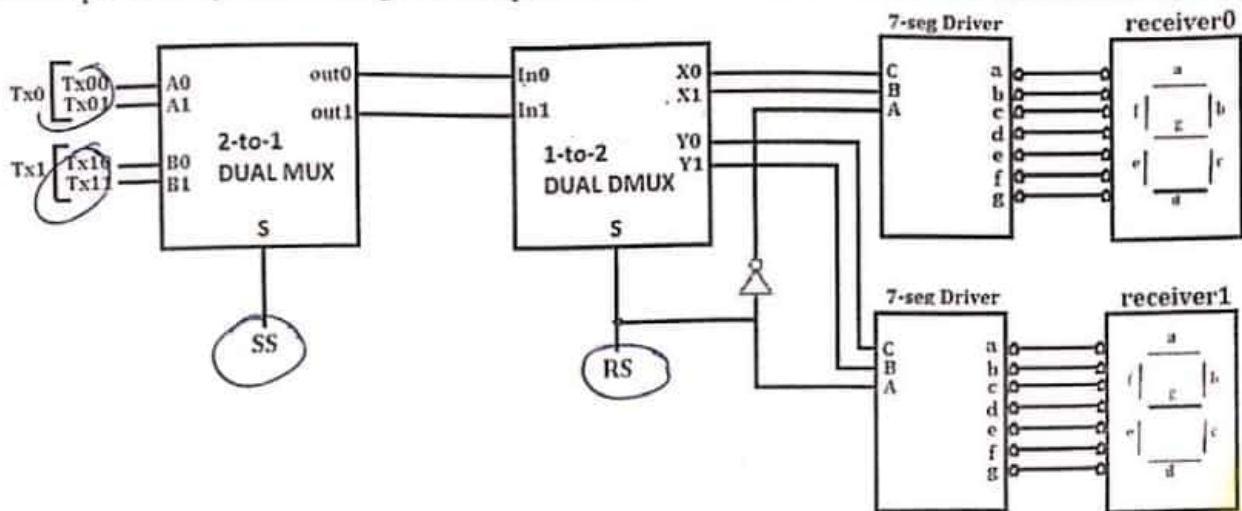

Figure1. 2- Bit TDM Communication Circuit
In this experiment, you will design the simple two-bit TDM communication circuit shown in Figure 1.
a) Implement the whole circuit which is shown in Figure 1 using Verilog code **structurally** in a module named *circuit1* inside the "circuit1.v" file. This module should have: